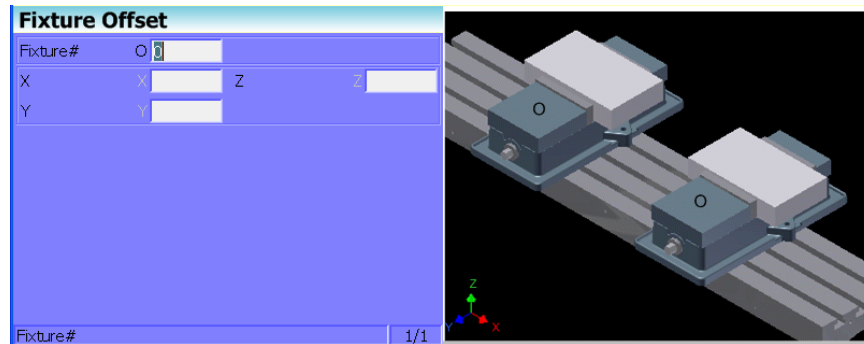

Figure 3-2, Fixture Offset Graphic Menu
Refer to **Figure 3-2**.
4. Select **Offset** and press **ENTER** to display the Fixture Offset graphic menu. Refer to **Figure 3-2**.